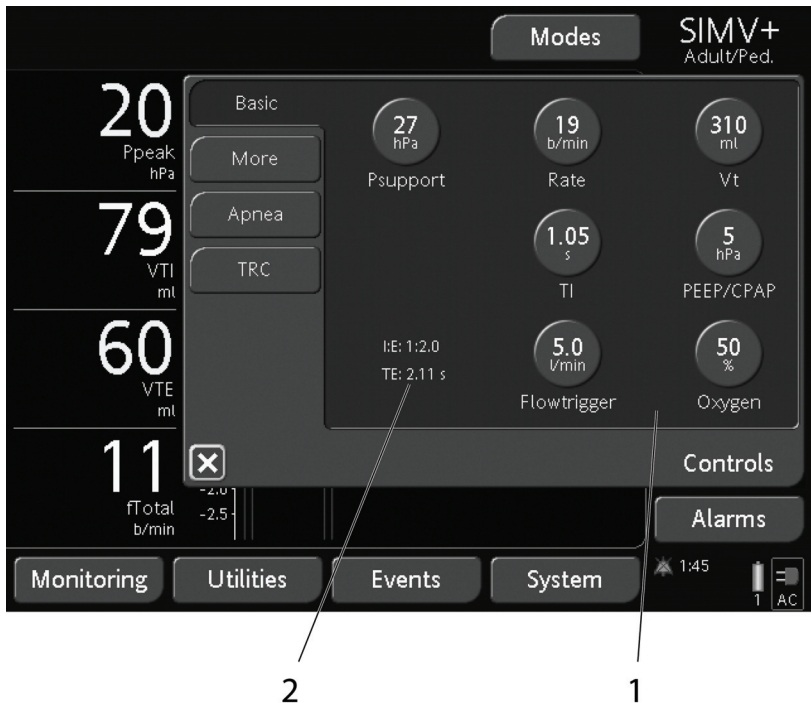

Figure 4-5. Basic (Controls) window
1. Open the **Controls** -> **Basic** window (Figure 4-5).